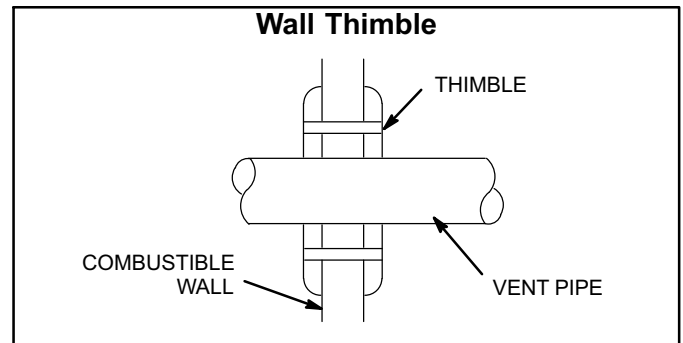

Figure 7
8. The vent may pass through a wall where provisions have been made for a thimble as specified in the Standards of the National Board of Fire Underwriters. See figure 7.